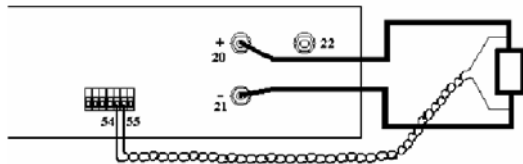

Figure 4. External sense.
2. Connect a twisted-pair (0.25mm2 -1.5mm2) between the sense terminals of the converter and the load, see *Figure 4*. The sense leads and the power cables shall be of approximately the same length and drawn as close to each other as possible. **Beware of correct polarity!**